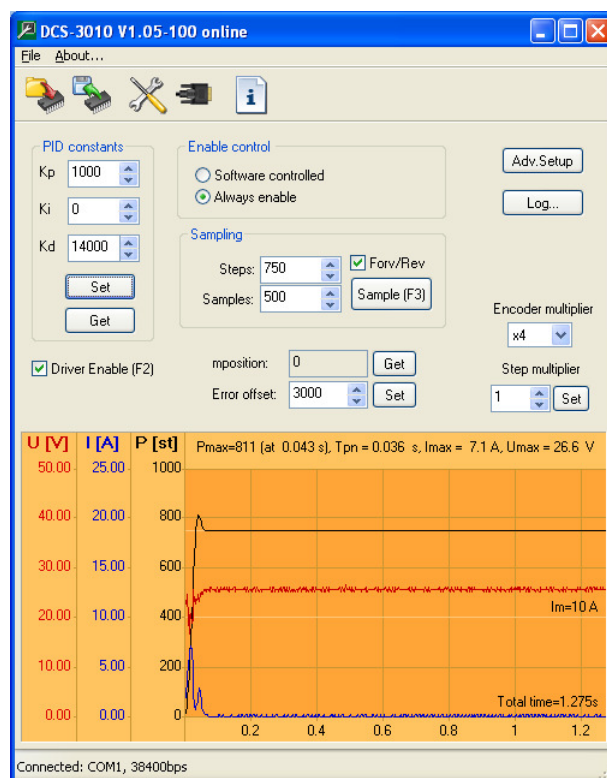

Figure 10.2
STEP 2: Increase constant K_d until the system response is not "calm" as is shown in Figure 10.2. The constant K_d may be significantly larger than the constant K_p .